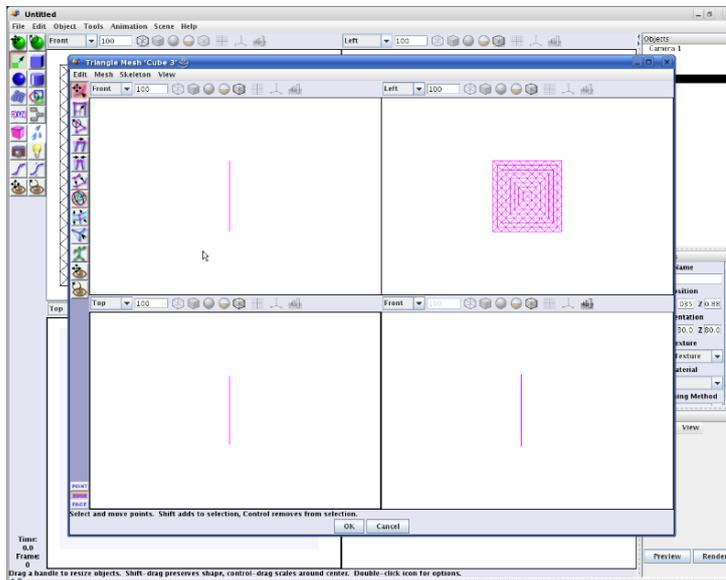

Figure 2: The source object. Note that we only have vertices from one face left.
10. Again set edge mode. Select all edges and subdivide until you have about the same spacing between vertices as the previous triangle mesh (see Figure 2).